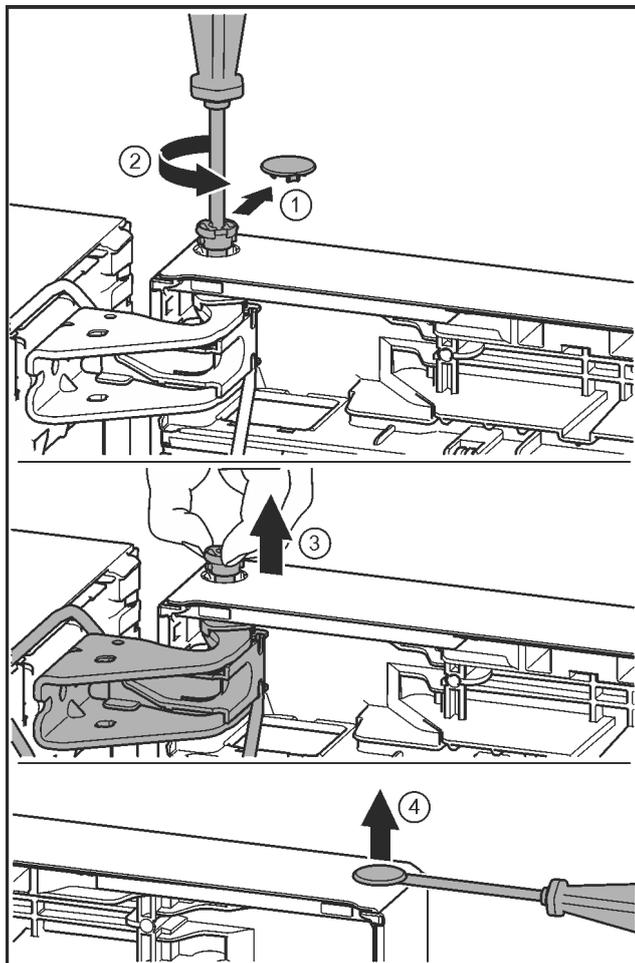

Fig. 21
- ▶ Carefully remove the protective cover. Fig. 21 (1)
- ▶ Undo the bolt a little with a T15 screwdriver. Fig. 21 (2)
- ▶ Hold the door and remove the bolts with your fingers. Fig. 21 (3)
- ▶ Carefully lift the plugs out of the door bearing bush with a slotted screwdriver and remove. Fig. 21 (4)